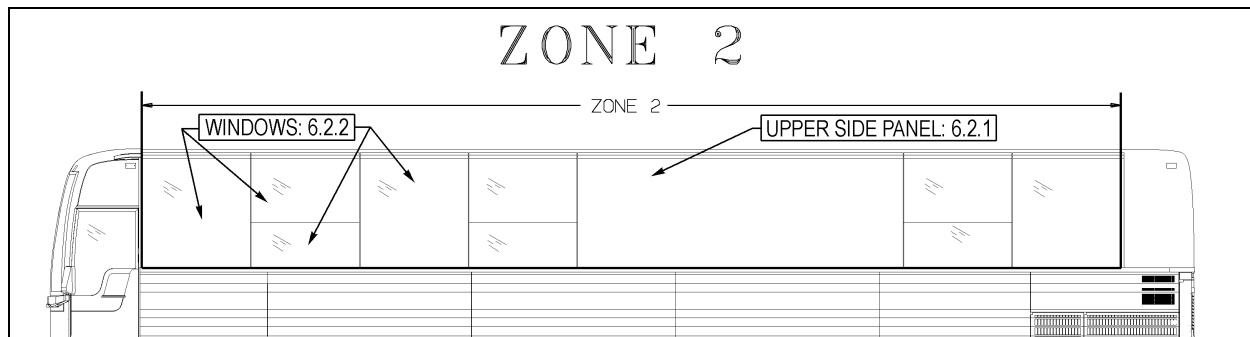

FIGURE 104: ZONE 2
4. Loosen the set screws #5 (Figure 104) (rotate the arm to get to the second set screw) and disengage the swiveling arm from the motor shaft extension.